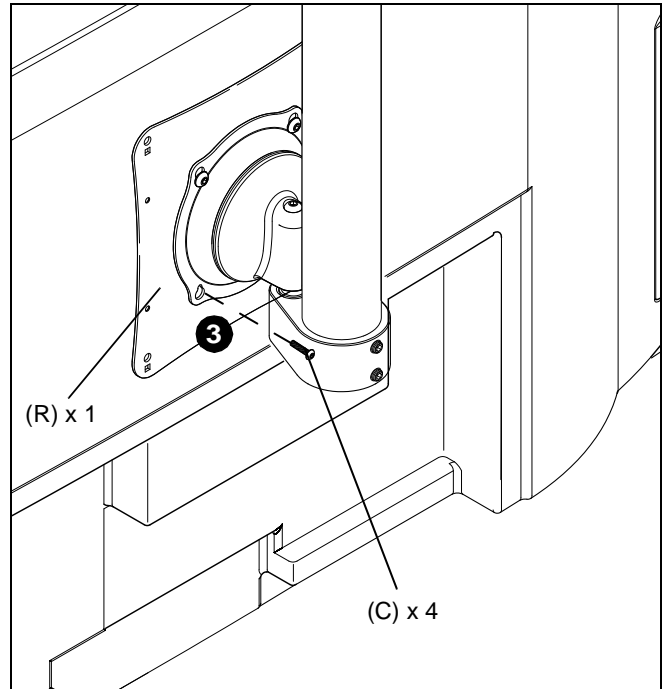

Figure 5
3. Hold display so that display back is against Centris cup and install two Phillips pan head machine screws (C,D, or E) through lower mounting holes in Centris cup and into lower mounting holes in VESA plate (R). (See Figure 5)